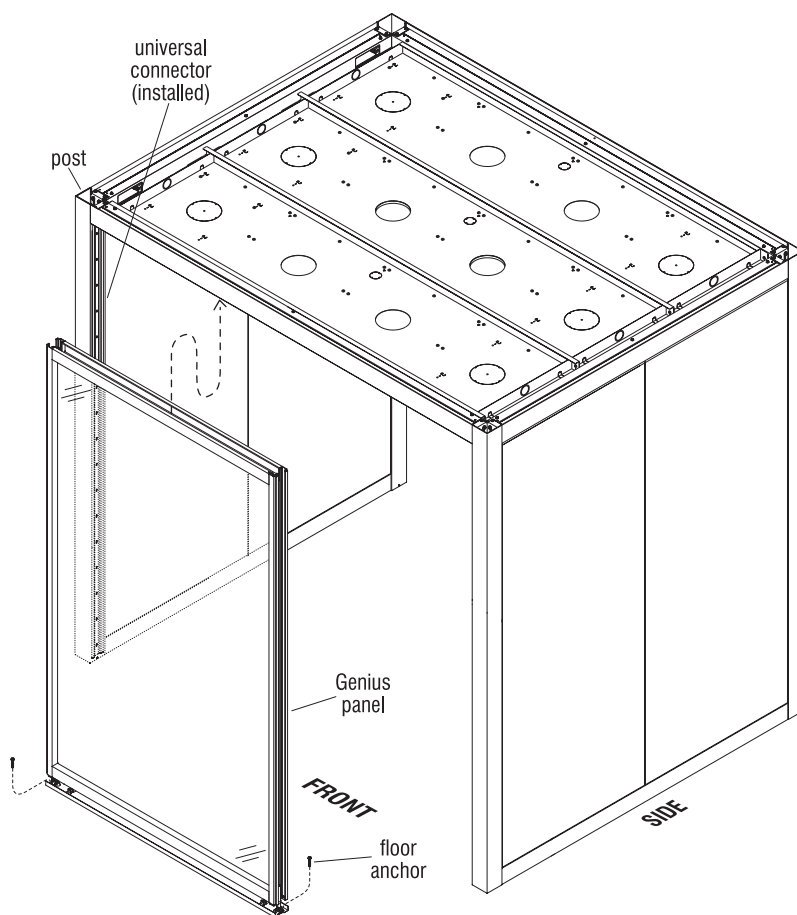

Figure 3 - Genius Panel Installation
5. With the assistance of a second person, position the specified Genius panel under the ceiling rail and align it tight to the appropriate universal connector on the post (Figure 3).
8. Once panels are in place and height is adjusted, floor anchors are required to secure the panel floor channel in place. Refer to page 55, Details A, B & C to determine the appropriate anchor requirements, then install the floor channel using anchors (Figure 3 and page 55, Details A, B & C).